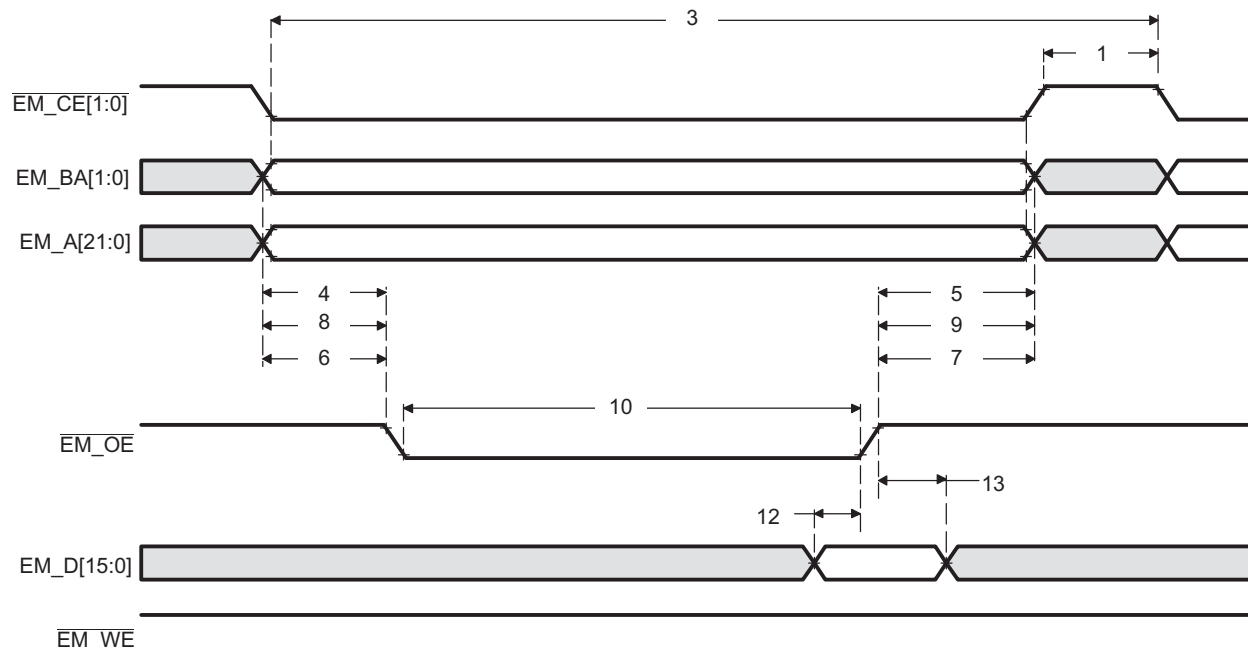
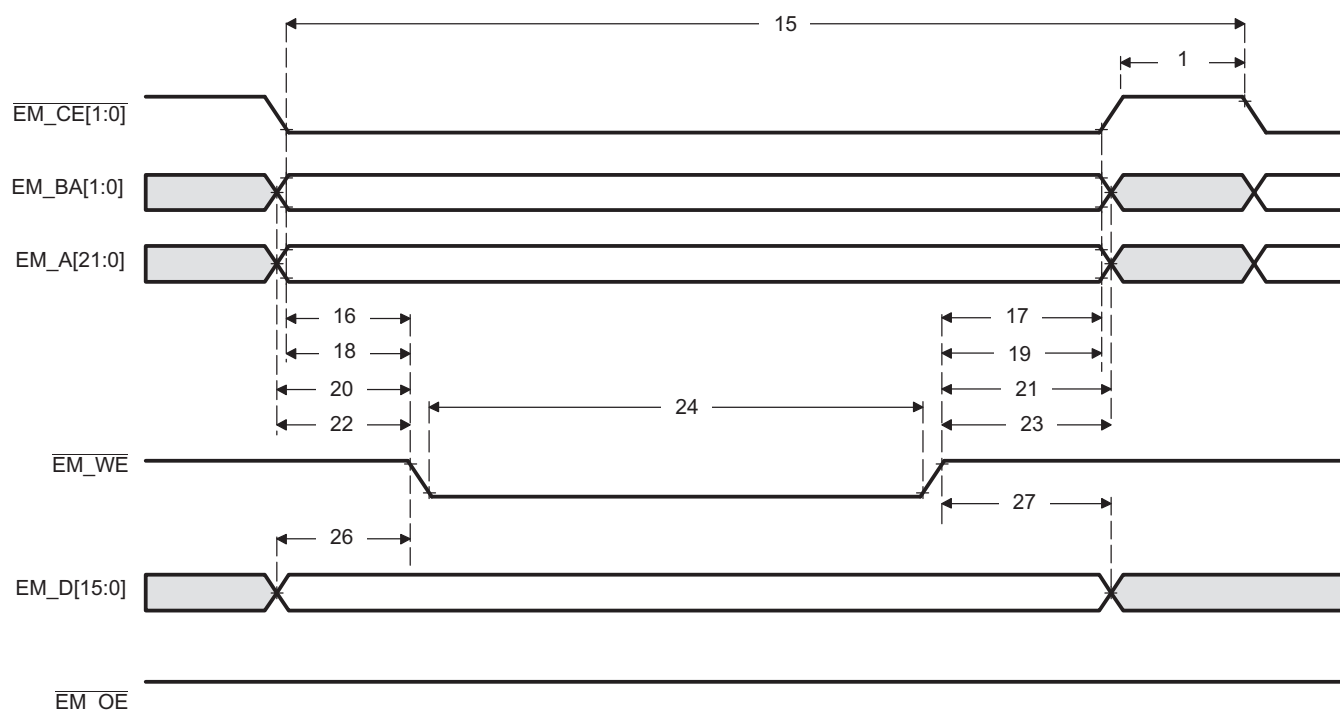

Figure 6-13. Asynchronous Memory Read Timing for EMIF
Figure 6-14. Asynchronous Memory Write Timing for EMIF
Table 6-21. Timing Requirements for Asynchronous Memory Cycles for AEMIF Module⁽¹⁾ (see Figure 6-13 and Figure 6-14)
Table 6-22. Switching Characteristics Over Recommended Operating Conditions for Asynchronous Memory Cycles for AEMIF Module⁽¹⁾ ⁽²⁾ ⁽³⁾ (see Figure 6-13 and Figure 6-14)
(1) TA = Turn around, RS = Read setup, RST = Read strobe, RH = Read hold, WS = Write setup, WST = Write strobe, WH = Write hold, MEWC = Maximum external wait cycles. These parameters are programmed via the Asynchronous Bank and Asynchronous Wait Cycle Configuration Registers. These support the following range of values: TA[4-1], RS[16-1], RST[64-1], RH[8-1], WS[16-1], WST[64-1], WH[8-1], and MEW[1-256]. See the *TMS320DM36x DMSoC Asynchronous External Memory Interface User's Guide* (SPRUFI1) for more information.
(2) E=2*PLL1C SYSCLK4 period in ns. See Section 3.3 for more information.
(3) EWC = external wait cycles determined by EM_WAIT input signal. EWC supports the following range of values EWC[256-1]. Note that the maximum wait time before timeout is specified by bit field MEWC in the Asynchronous Wait Cycle Configuration Register. See the *TMS320DM36x DMSoC Asynchronous External Memory Interface User's Guide* (SPRUFI1) for more information.
Table 6-22. Switching Characteristics Over Recommended Operating Conditions for Asynchronous Memory Cycles for AEMIF Module^{(1) (2) (3)} (see Figure 6-13 and Figure 6-14) (continued)